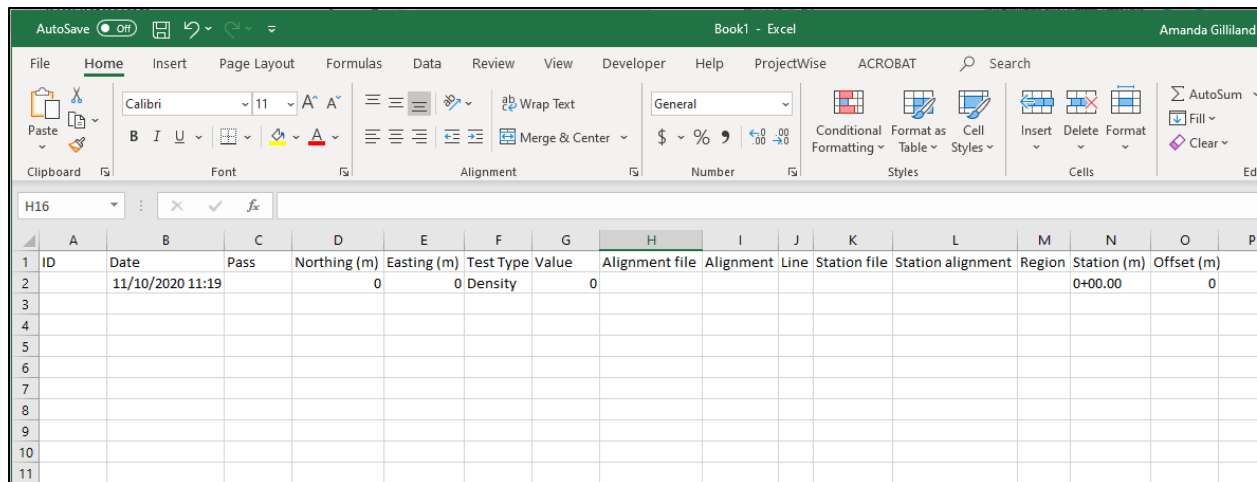

Figure 78. Pasted data into an excel spreadsheet.
Step 3. Paste the data into an excel spreadsheet and populate the columns as illustrated in Figure 78.